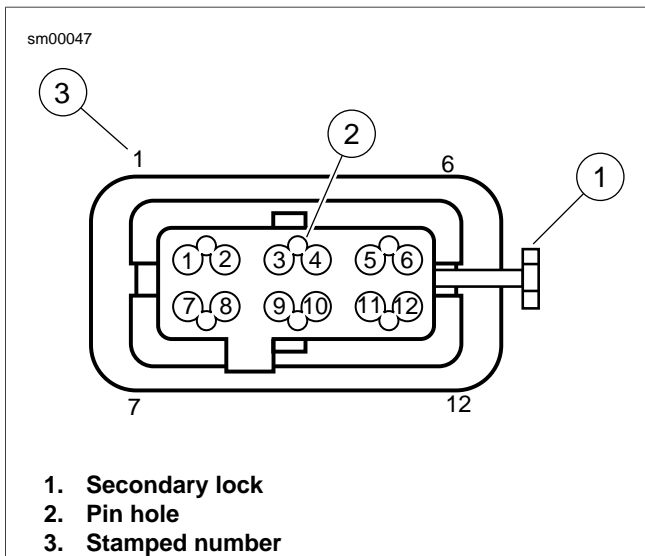

Figure A-18. Delphi Micro-64 Sealed Connector: Housing
1. See Figure A-18. Locate the head of the secondary lock (1) on one side of the connector housing.
3. Locate pin hole (2) between terminals on mating end of connector.
See Figure A-18. For wire location purposes, the corners of the socket housing are stamped (3) with the numbers 1, 6, 7 and 12, representing terminals 1-6 on one side, and 7-12 on the other.